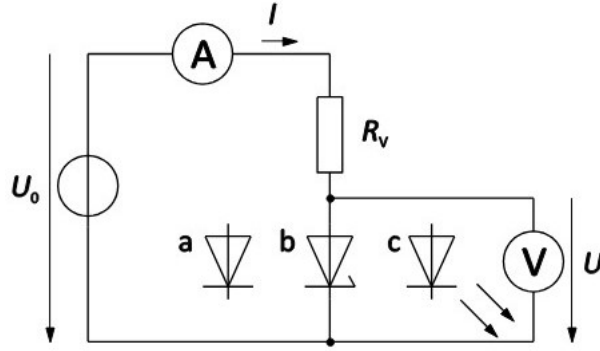

Figure 1.1: Diode Circuit Diagram. [1]
1. The circuit was set up following the circuit diagram, and care was taken to ensure that the power ratings of each diode were not exceeded. **Fig 1.1 & 1.2**